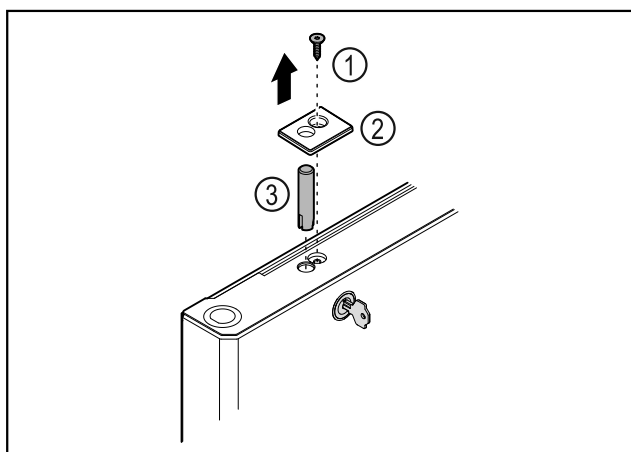

Fig. 35
- ▶ Remove the screw Fig. 35 (1).
- ▶ Unlatch the cover Fig. 35 (2) with a small screwdriver and remove it.
- ▶ Pull out the lock bolt Fig. 35 (3).